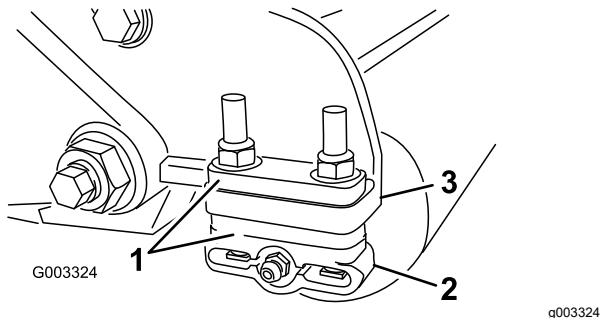

Figure 12
1. Adjust the rear roller brackets (Figure 12) to the desired height-of-cut range by positioning the required amount of spacers below the sideplate-mounting flange (Figure 12) per the Height-of-Cut and Bedknife Selection Charts (page 12).